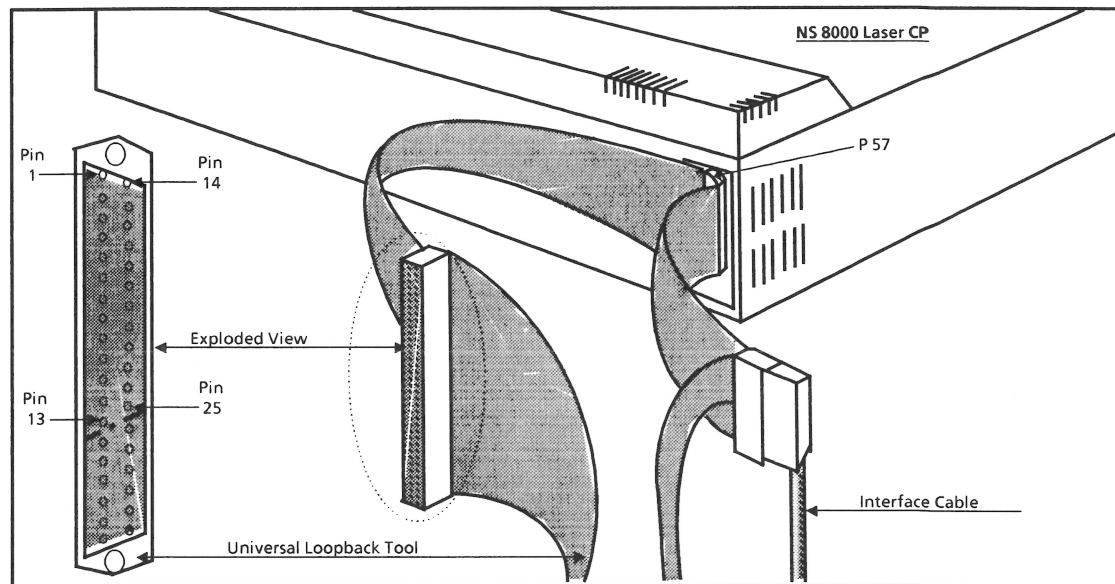

Figure 6-5 Interface Signal Check Set-Up
- b. Remove the five wire interface cable from the back of the printer and install the Universal Loopback tool and five wire interface cable. (Figure 6-5)